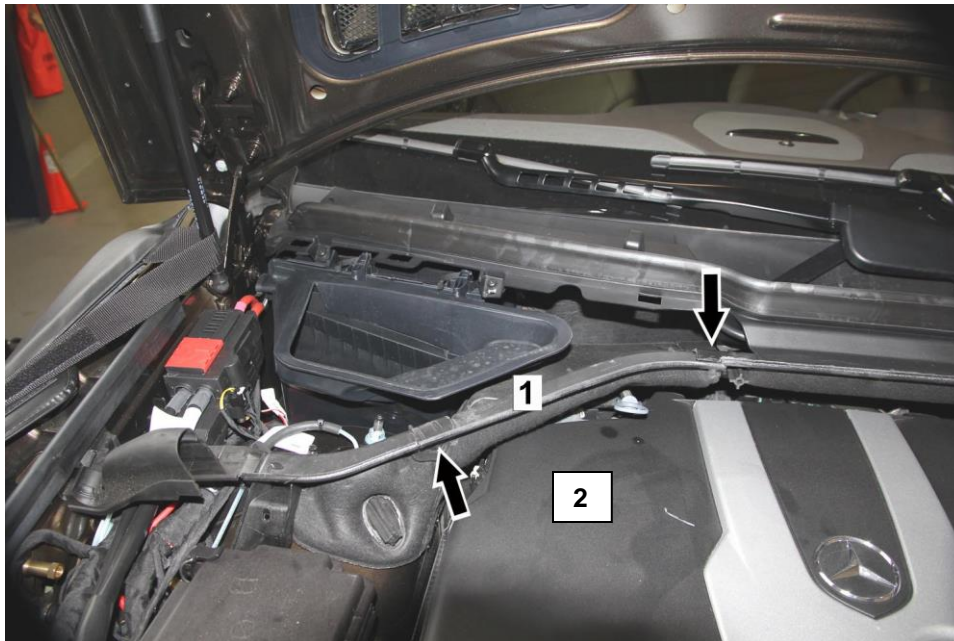

Figure 3
- Remove 2 screws (arrows, Figure 3).
- Remove partition wall section (1, Figure 3).
- Remove engine cover (2, Figure 3)